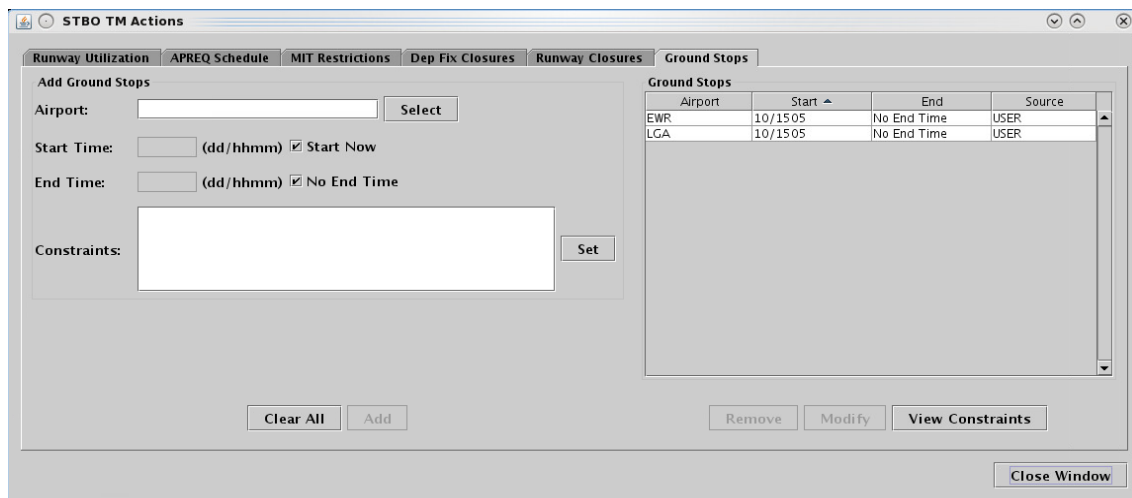

**Figure 120. Select Airport window.**
**Step 2:** Click on “Select” button to choose an airport. (Text may also be manually entered into the Airport text box. Multiple airports may be entered and separated with commas.) This will open the Select Airport window (Figure 120), which lists checkboxes with commonly used airports.